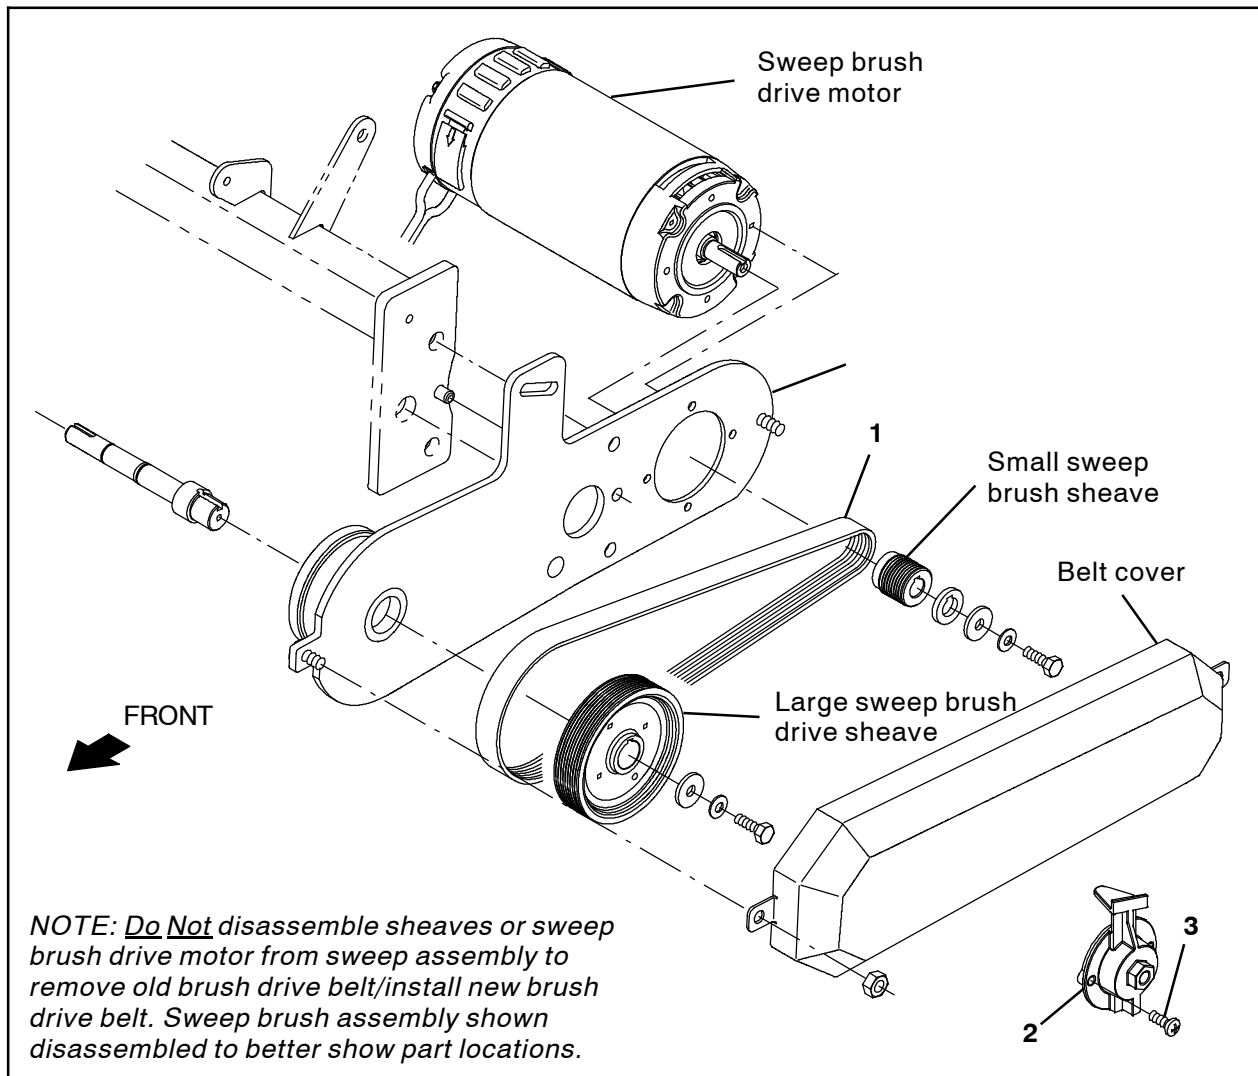

**FIG. 4**
5. Position the new sweep brush drive belt (1) onto the small sweep brush sheave and then position the belt onto the belt installation tool (2) installed on the large sweep brush sheave.
6. Turn the belt installation tool (2)/sheave clockwise to install the belt onto both sheaves. (Fig. 4)